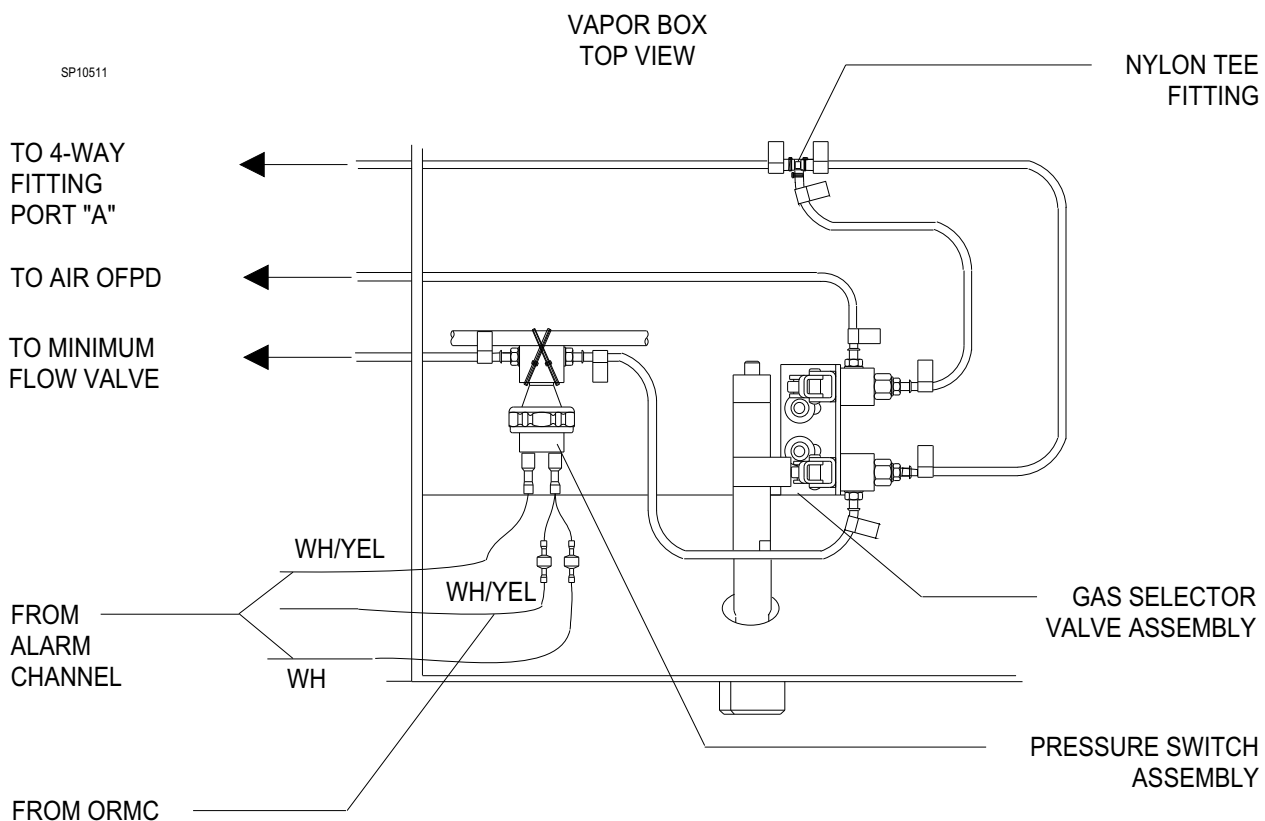

Figure 11: GAS SELECT VALVE AND PRESSURE SWITCH CONNECTIONS
84. Mount the gas selector valve (consisting of P/Ns 4112707-001 x4, HW02028 x2, 4108749 x2, 4103621 x2, and 4110518) to the floor of the vapor box, oriented as shown in Figure 11, with two 10-32 x 5/16 in. socket head screws (P/N HW01022 x2), lock washers (P/N HW67006 x2) and flat washers (P/N HW66003 x2).
85. Secure the pressure switch assembly (consisting of P/Ns 4103444, 4106367, and 4112707-001 x2 to the copper tubing in the vapor box with two tie straps (P/N 1101732 x2) as shown in Figure 11.
97. Connect a 24 in. length of flex tubing (P/N ML08003 x24) from the rear port on the gas selector assembly to the hose barb on the top of the air OFPD in the flowmeter housing. See Figures 11 and 12. Secure each end with a press-on clamp (P/N 4104161 x2). Install an O₂ label (P/N 4109871 x2) on each end of this tube.